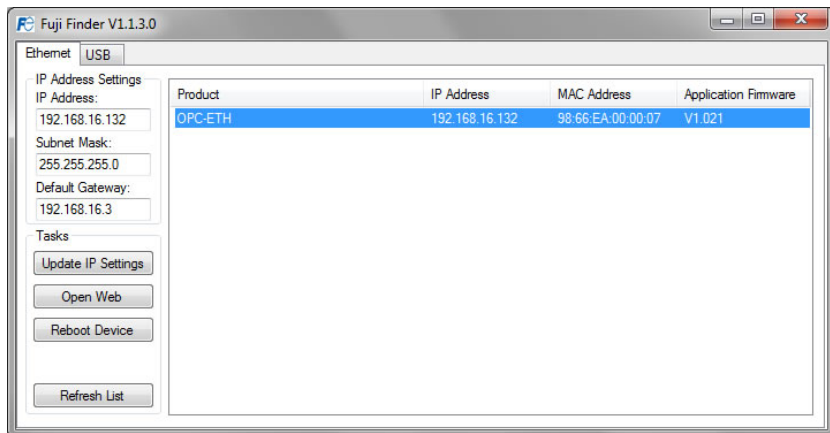
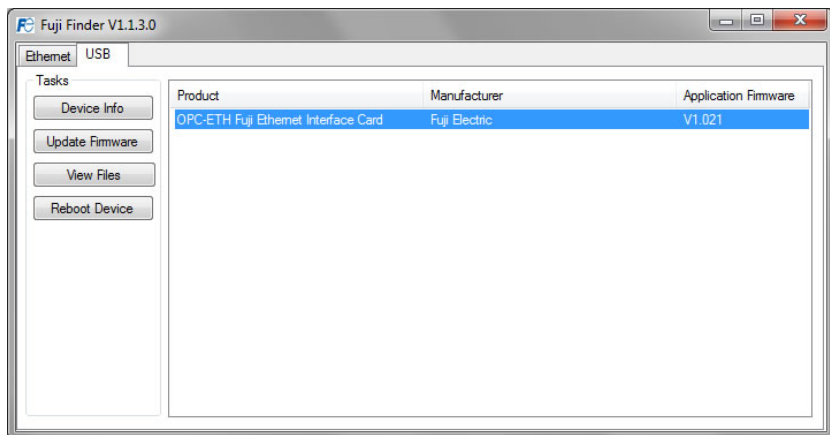

Figure 20: Fuji Finder Ethernet tab
Figure 21: Fuji Finder USB tab
The “Fuji Finder” application is a simple Windows PC program, which when executed discovers all OPC-ETH cards on the current Ethernet subnet, regardless of whether or not their network parameters are currently compatible with the subnet upon which they reside. The utility is also used to update firmware. These functions are accessed via two tabs available on the Finder application main program window (refer to Figure 20 and Figure 21.)
3. The Finder application will scan the Ethernet network for Fuji devices and then display each device's information on the "Ethernet" tab. Refer to Figure 20. If multiple devices are discovered, identify the targeted device via its unique **MAC address** (printed on a barcode label on the left-hand side of the interface card).